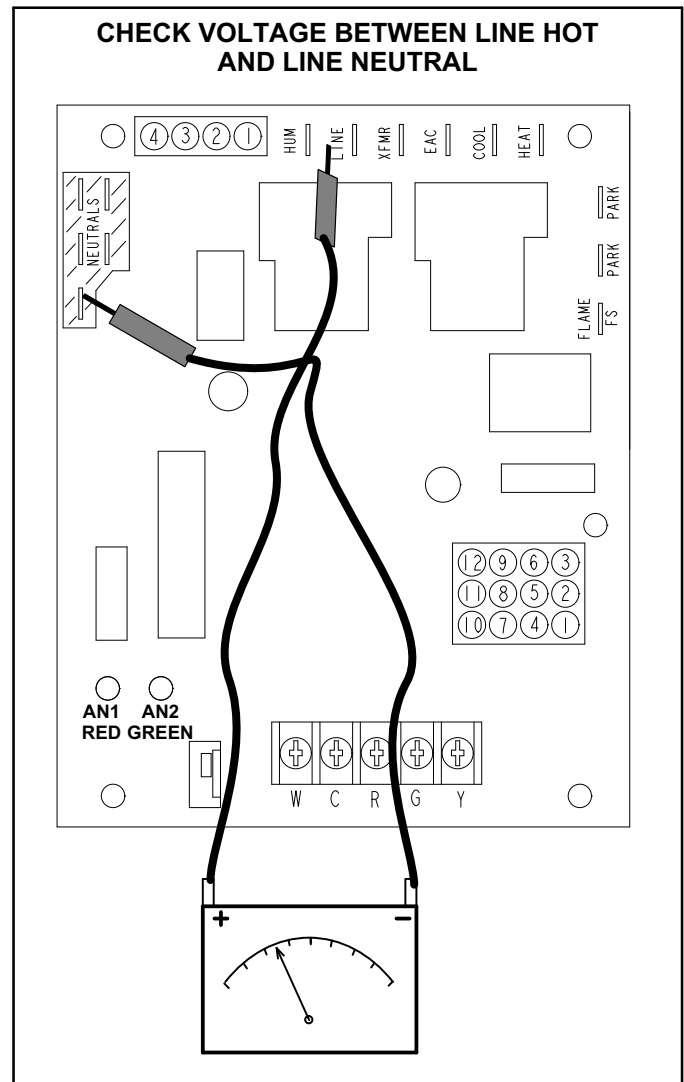

FIGURE 62
- 2 - In addition, measure the AC voltage from Line Hot to Line Neutral (spade terminals) on the integrated control. See figure 62. This voltage should be in the range of 97 to 132 Vac